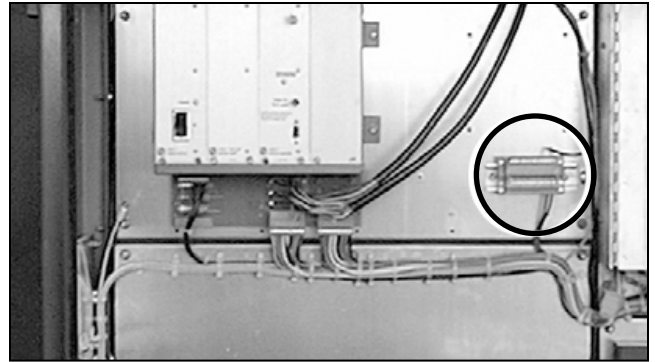

Figure 66. Attaching the ground wires to the terminal block.
- (f) There will be up to three pairs of ground wires, VS-G1 and VS-G2, included in the main enclosure. See the wiring diagram for details. Disconnect the ground wires from the temporary grounding leads and route them into the low-voltage enclosure. Attach the ground wires to the terminal block specified in the drawings provided, and fully tighten the set screws. Figure 66 on page 37.